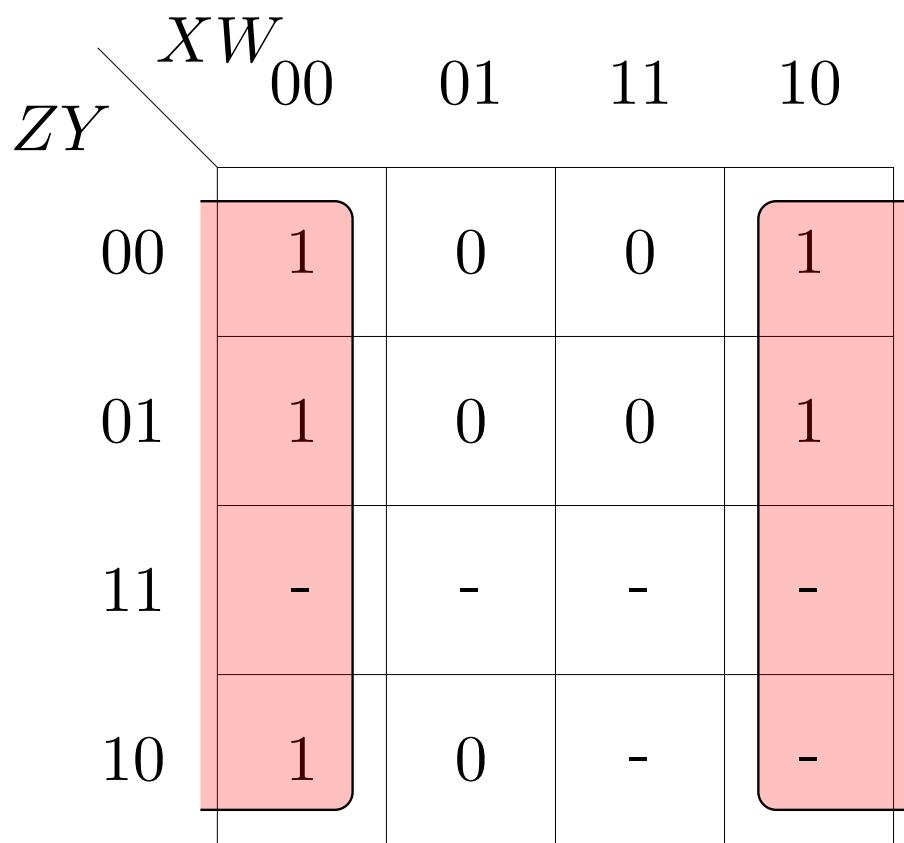

Figure 4.5: K-map for A with don't cares
2. The revised K-map for A is available in Fig 4.5. Show that